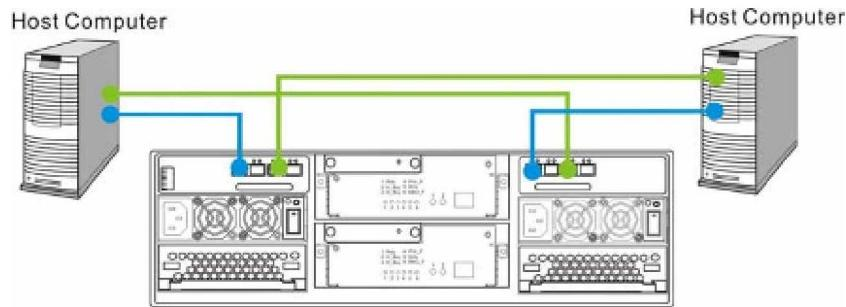

Figure 4-5: Direct Dual Host Connection
1. Connect the left FC ports from each host connection modules on the FALCON III, to a dual-ported host computer. (See **Figure 4-5.**) When one controller or loop fails, the alternative controller or loop will take over the job.